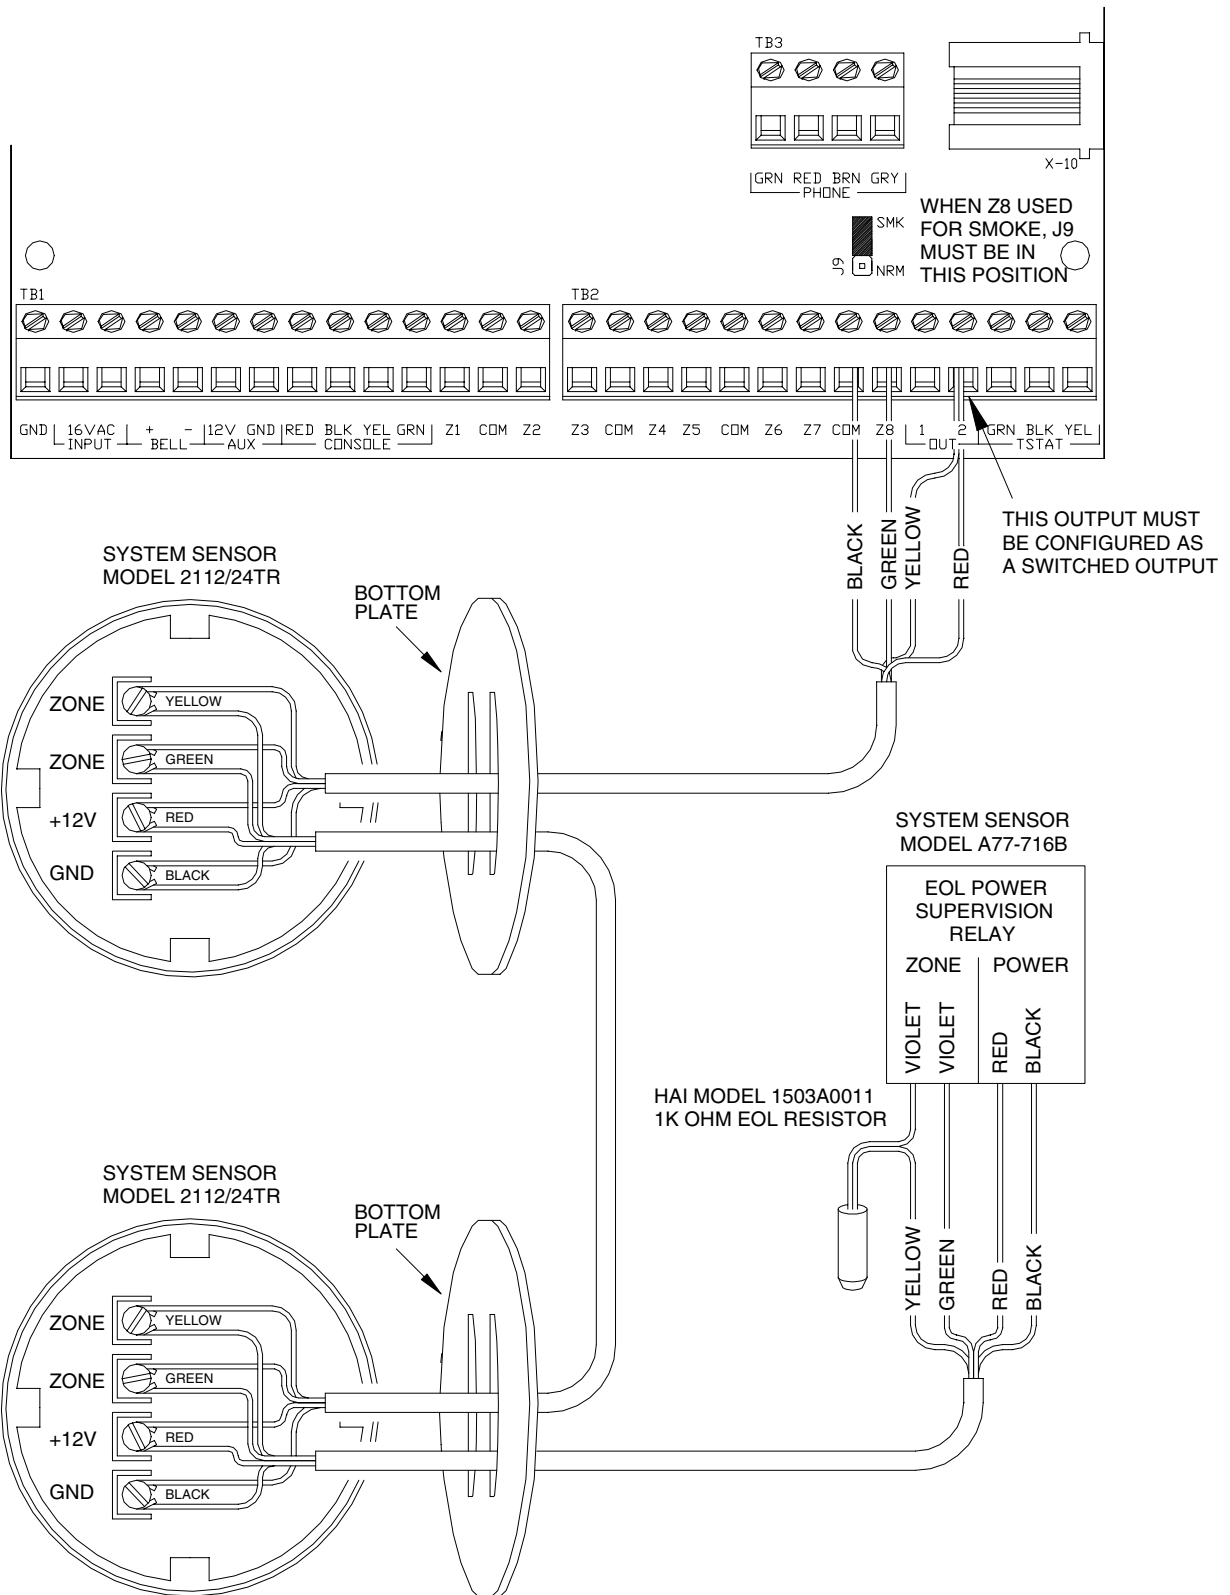

FIGURE 4 – FOUR-WIRE FIRE ZONE CONNECTIONS
5. Refer to **FIGURE 4 (FOUR-WIRE FIRE ZONE CONNECTIONS)** for this configuration.